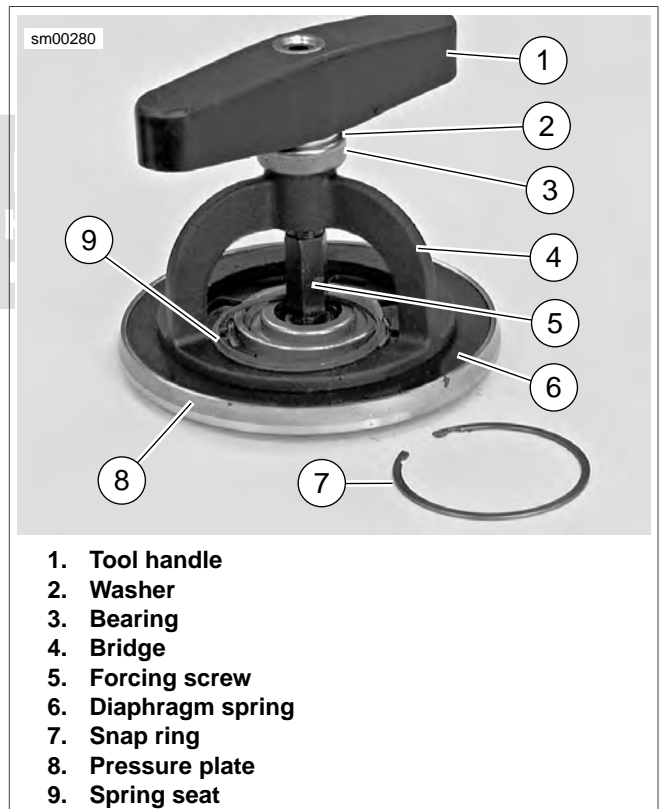

Figure 5-22. Pressure Plate Assembly
See Figure 5-22. Turn compressing tool handle only the amount required to install spring seat and snap ring. Excessive compression of diaphragm spring could damage clutch pressure plate.
- c. See Figure 5-22. Install SPRING COMPRESSING TOOL (Part No. HD-38515-A) onto clutch hub against diaphragm spring.